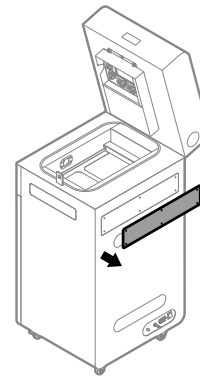

Fig. 13.90 Remove the access panel.
- Remove the access panel on the back side of the printer (fig. 13.90).